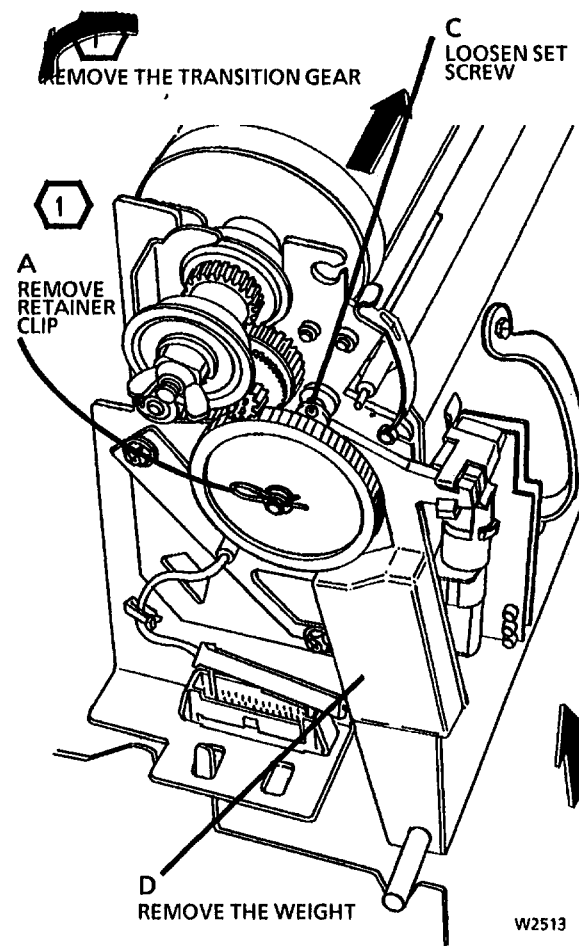

Figure 2. Remove the Transition Gear and
3. (Figure 2): Remove the Transition Gear and Weight.